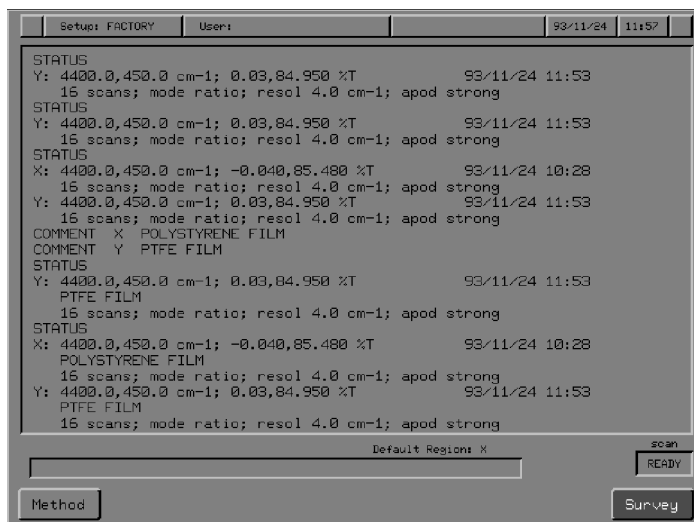

Figure 3-31 Spectrum RXI Text Display
- If text is on, the display contains the scroll buffer, which lists commands, results, and error messages (Figure 3-31).